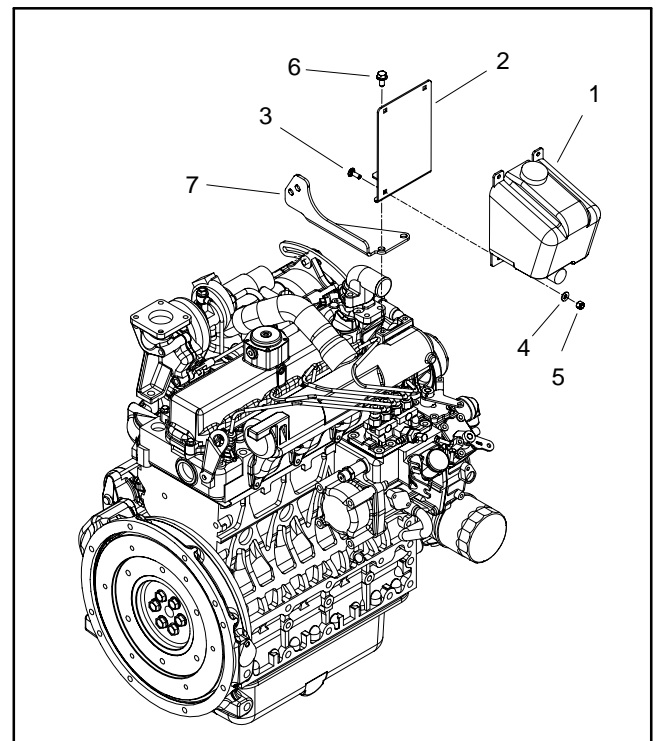

Figure 17
A. Remove windshield washer reservoir from reservoir mount on engine (Fig. 17). Position reservoir away from engine. Do not remove reservoir mount from engine.
- A. Position windshield washer reservoir to bracket on engine (Fig. 17). Secure with removed fasteners.